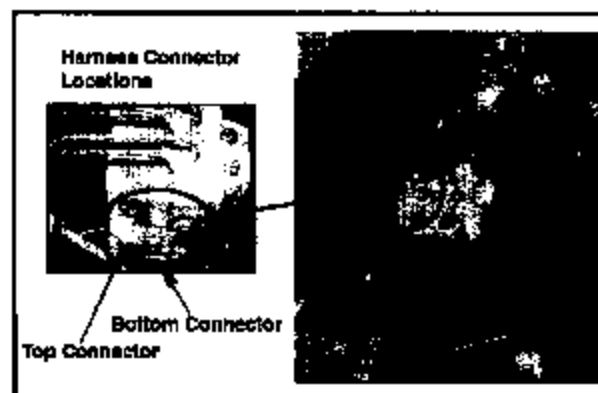

Figure 1
3. Disconnect the top and bottom harness connectors (see figure 1).